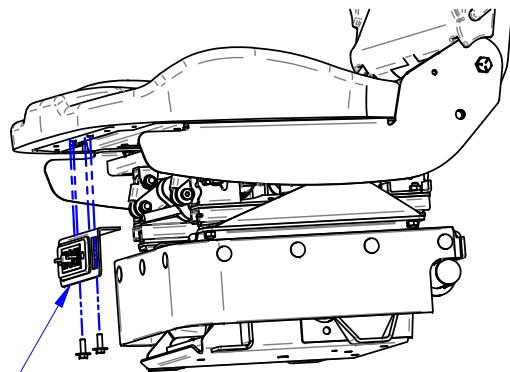

FIG. 8
12. USING NEW HARDWARE, (2) 1/4"-20 SCREWS, SECURELY ATTACH NEW FRONT SWITCH PANEL TO UNDERNEATH CUSHION. (FIG. 8)